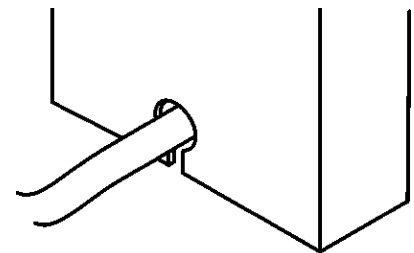

Figure 11. Locating the cable
3. There is a supply cable slot on both sides of the spacer frame. It is located at the base. Decide which side to pass the supply cable through and position the supply cable in the spacer frame slot (See figure 11).